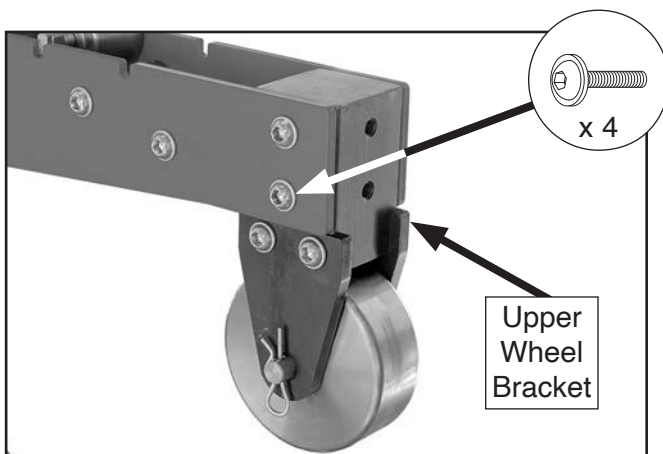

Figure 16. Location of upper wheel bracket fasteners.
1. With a firm grasp on upper wheel, loosen and remove (4) flange screws connecting upper wheel bracket to frame (see **Figure 16**).